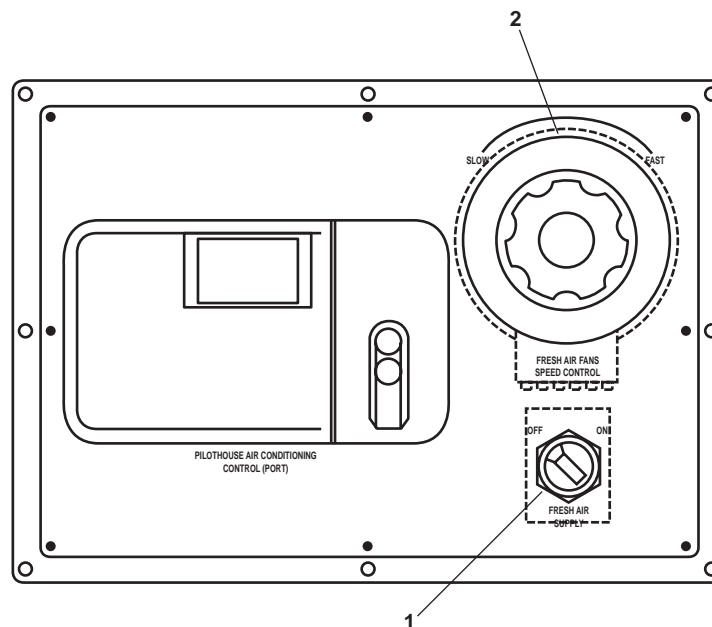

Figure 29. Pilothouse Fresh Air Fan Control Panel
2. Turn ON the FRESH AIR SUPPLY switch (figure 29, item 1).
3. To adjust the fan speed, turn the FRESH AIR FANS SPEED CONTROL knob (figure 29, item 2). Clockwise rotation will INCREASE fan speed, counterclockwise rotation will DECREASE fan speed.
4. To secure the pilothouse fresh air fans, set the FRESH AIR SUPPLY switch (figure 29, item 1) to OFF.